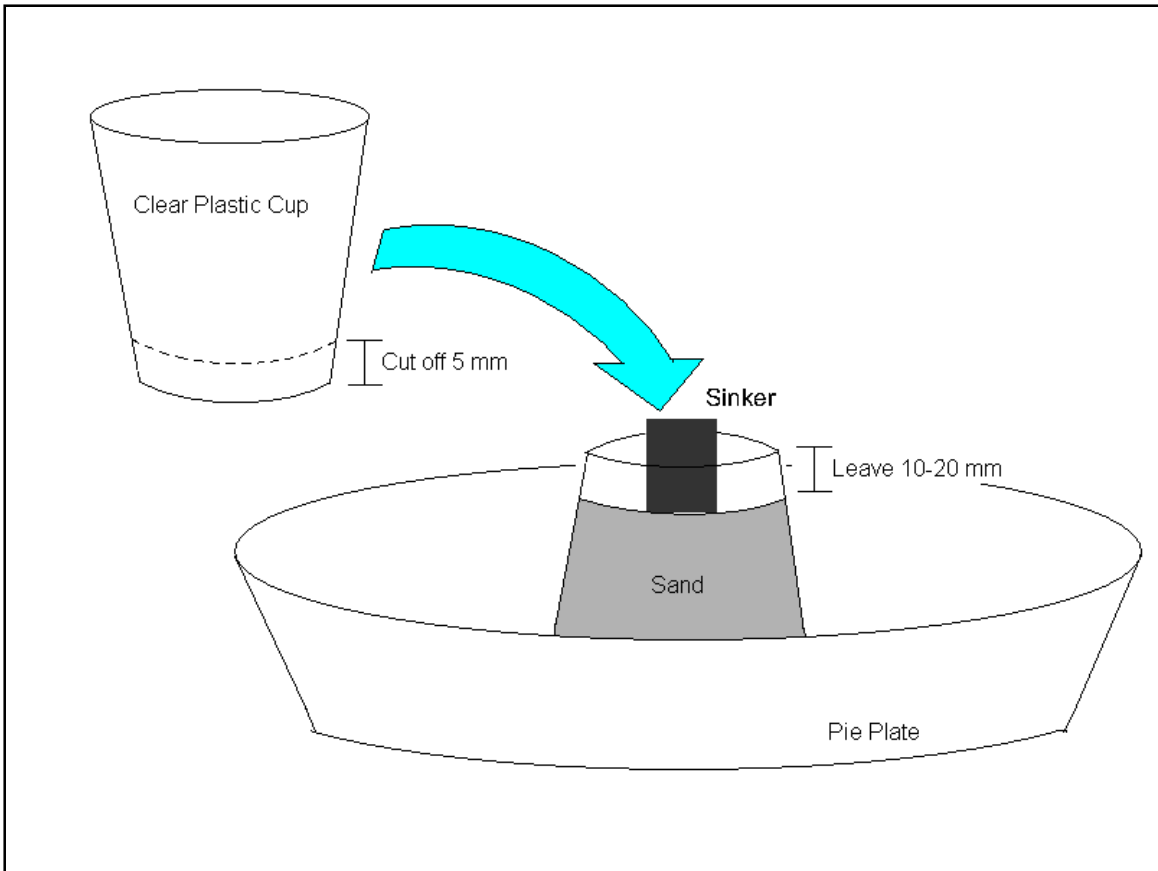

Figure 1.
2. Ask one student in each group to cut off about 5 mm from the bottom portion of the plastic cup, and invert the cup and place it in the middle of the pie plate, as shown in Figure 1. Ask the student to hold the cup firmly, and slowly pour the sand into the bottom of the cup to a level of 10-20 mm from the top. Level the sand gently using fingers. Do not shake the cup.